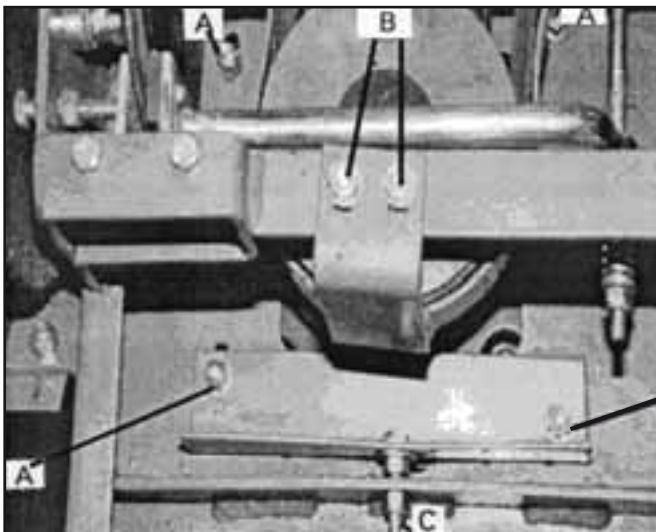

Fig. 27
7. Release the spring plate as per step (2)
8. Loosen the four locknuts (A) on the engine hold down bolts. *Fig. 27*
9. Loosen locknuts (B) on engine pulley guard and slide to the rear. *Fig. 27*
10. Adjust nyloc nut (C) on motor adjustment plate to move the engine to the rear and repeat step (6).